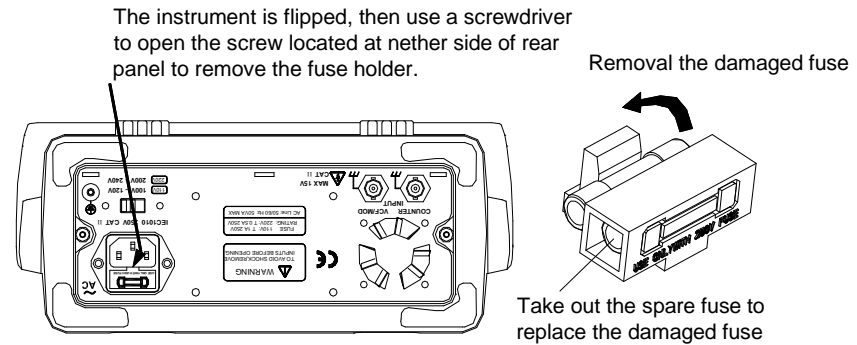

Figure6-1
- The instrument as shown in Figure 6-1 flip 180 degrees, so that the bottom upward, the latter back towards us.